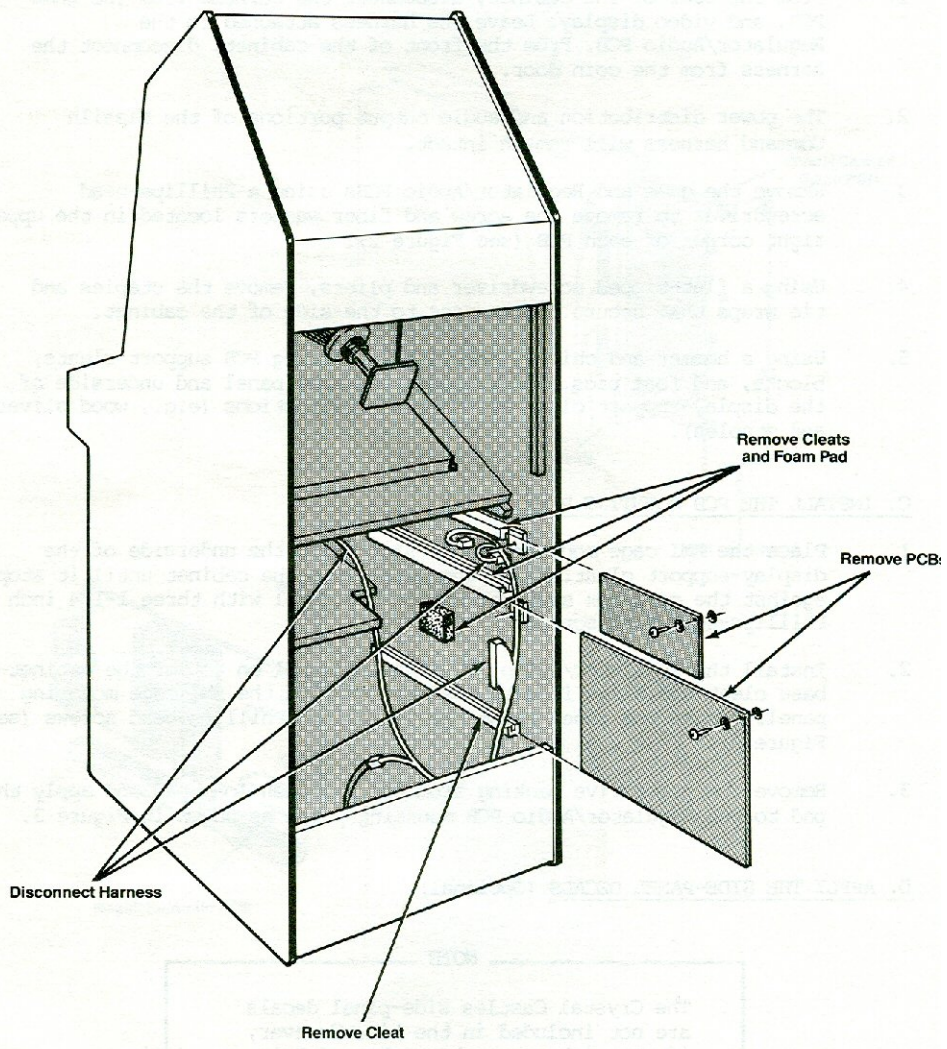

Figure 2 Removing the PCBs, Main Harness, and Cleats
3. Remove the game and Regulator/Audio PCBs using a Phillips-head screwdriver to remove the screw and fiber washers located in the upper right corner of each PCB (see Figure 2).